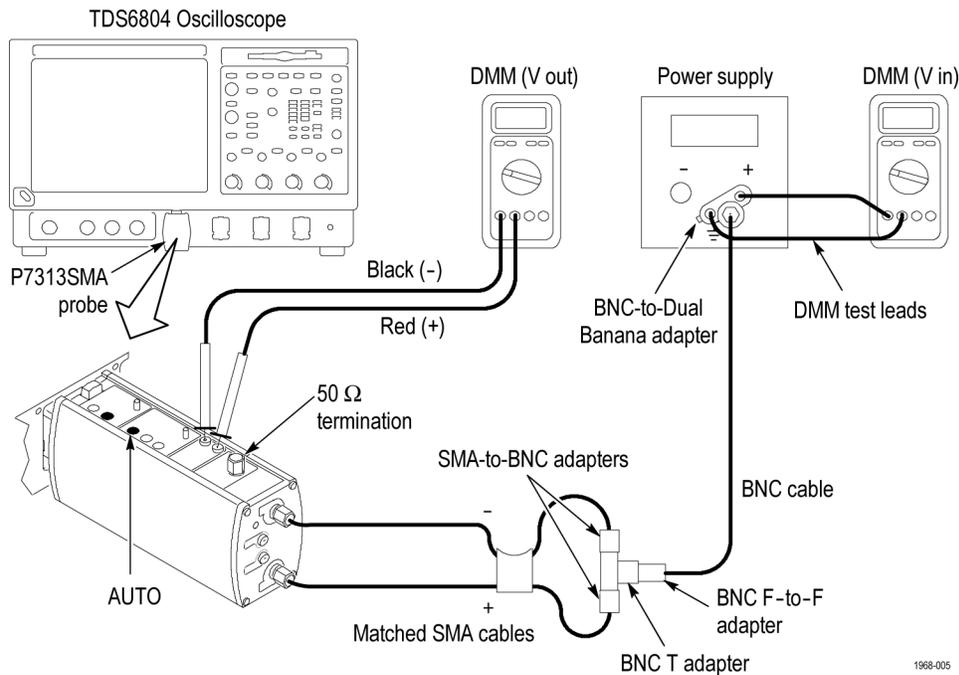

Figure 25: Termination Voltage Accuracy, Auto mode setup
1. Connect the test setup as shown. (See Figure 25.)